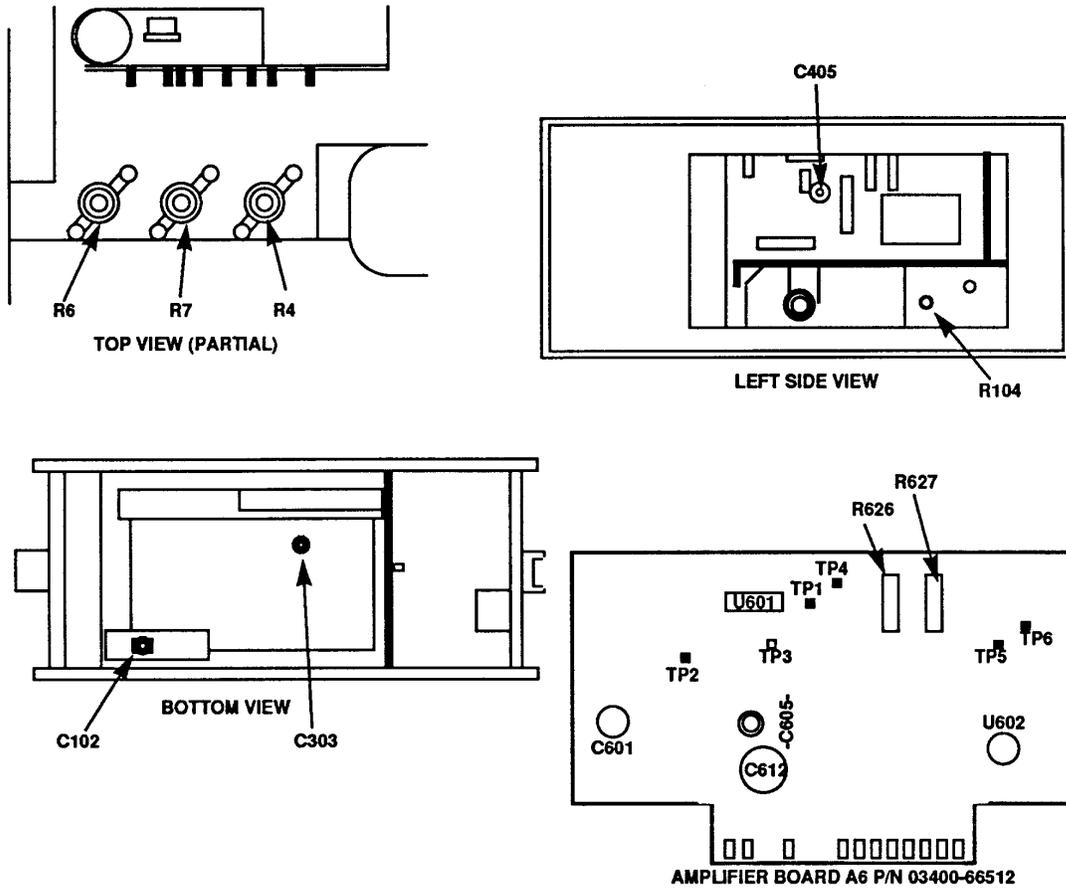

Figure 1. Test instrument - top, left side, bottom view, and A6 board, P/N 03400-66512.
- (1) Adjust R4 (R627 for TIs with amplifier board A6, P/N 03400-66512) (fig.1) until digital multimeter indicates -1.00 V.
- (2) If necessary, adjust R6 (fig. 1) for full scale indication on TI.
- (3) Set calibrator for a 10 mV, 400 Hz output. Adjust R6 (fig.1) until TI indicates full scale (R).
- (4) Set **RANGE** switch to **.1 VOLTS**.
(5) Adjust R7 (R626 for TIs with amplifier board A6, P/N 03400-66512) (fig. 1) until TI indicates 0.01 V (1 /10 scale) (R).
(6) Set **RANGE** switch to **.01 VOLTS**.
(7) Repeat (3) through (6) above until no further adjustment is necessary.
(8) Set calibrator for a 1.0 V, 400 Hz output. Adjust R104 (fig. 1) until TI indicates 1 (R).
(9) Set calibrator for an initial 900 μ V 1 kHz wideband output, then adjust for the TI indication record for table 3 (.0009 V).
(10) Press calibrator **NEW REF** pushbutton, then set frequency to 10 MHz. Adjust C405 (fig. 1) for the 1 kHz reference established **b(9)** above (R).
(11) Vary calibrator frequency between 3 and 10 MHz and if required, readjust C405 (fig. 1) for best in-tolerance condition.
(12) Set calibrator for an initial 0.9 V, 1 kHz wideband output, then adjust for the TI indication recorded for table 3 (0.9 V).
(13) Press calibrator **NEW REF** pushbutton, then set frequency to 100 kHz. Adjust C102 (fig. 1) for the 1 kHz reference established in **b(12)** above (R).
(14) Vary calibrator frequency between 100 kHz and 10 MHz and, if required, readjust C102 (fig. 1) for best intolerance condition.
(15) Set calibrator for an initial 0.3 V, 1 kHz wideband output, then adjust for the TI indication recorded for table 3 (0.3 V).
(16) Press calibrator **NEW REF** pushbutton, then set frequency to 3.0 MHz.). Adjust C303 (fig. 1) for the 1 kHz reference established in **b(15)** above (R).
(17) Vary calibrator frequency between 3 and 10 MHz and, if required, readjust C303 (fig. 1) for best in-tolerance condition.